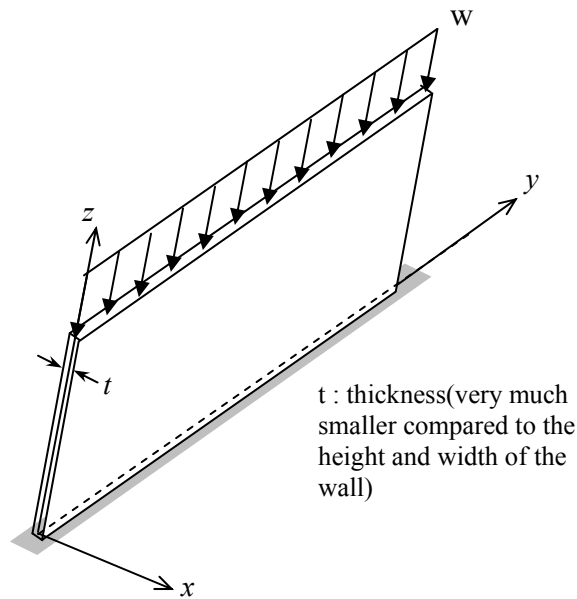
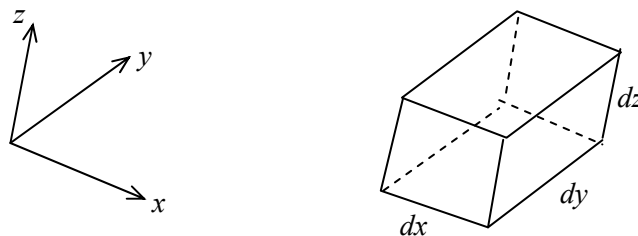

Figure 3
Figure 4
- (b)(i) Figure 3 shows a thin wall structure loaded by a uniformly distributed load w in z -direction. Justify why this problem can be solved as a plane stress problem.
- ii) Figure 4 shows an infinitesimal volume taken from the interior of the wall shown in Figure 3. Indicate the non-zero stress components on the infinitesimal volume.
- iii) Using the following general stress-strain relation, derive the stress-strain relation, $\sigma = C\varepsilon$, for the plane stress problem shown in Figure 3, where σ , ε : vector of components of non-zero stress and the corresponding strains respectively and C : the elasticity matrix for plane stress problem.